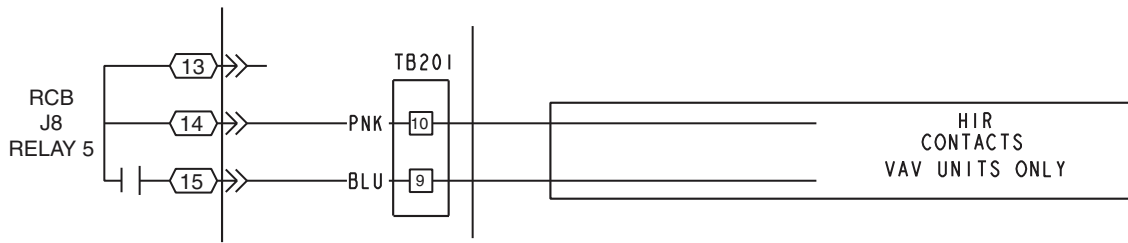

Fig. 57 — Heat Interlock Relay Wiring
HEAT INTERLOCK RELAY (VAV Units Only — Not Necessary for Digital Air Volume Applications) — Variable air volume (VAV) units using morning warm-up and/or occupied heating require that room terminals be controlled to a position that provides the minimum required heating cfm or greater when the unit goes into Heating mode. The HIR (heat interlock relay) function is provided for this control. When the unit goes into Heating mode, the HIR is energized to provide switch closure or opening (depending on how the field-supplied power source is set up) to open the room terminals. The field connections for the HIR are at TB201, terminals 9 and 10. See Fig. 57.
- Heat interlock relay (Fig. 57)